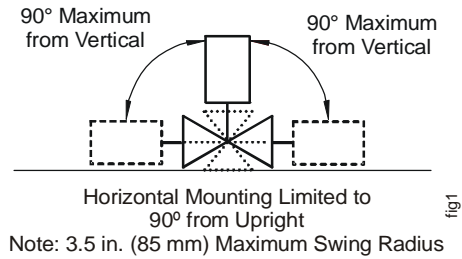

Figure 1: GM-7000 Mounting Positions
5. Mount the valve. The GM-7000 valve may be mounted on a horizontal manifold with the magnetic operators (solenoid coils) pointed up (vertical) or in any position not exceeding 90° from the vertical (Figure 1). The valve may also be mounted on a vertical manifold in any position around its axis. Do not install the solenoid coils upside down.